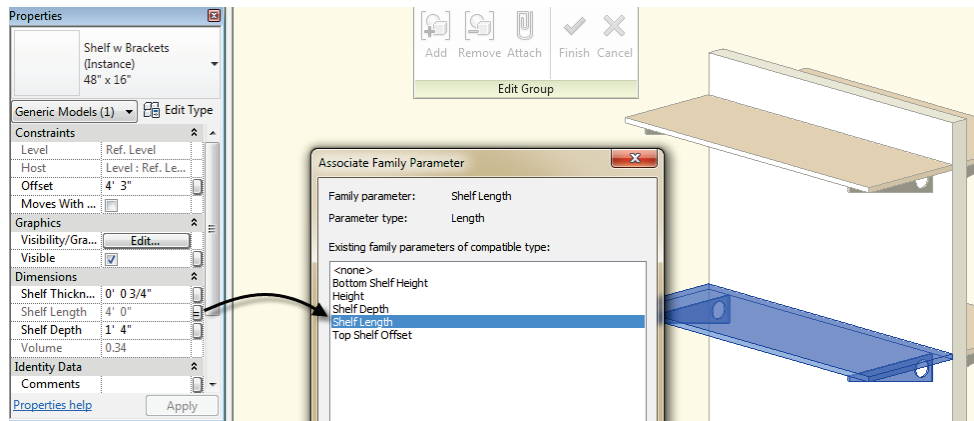

Figure 21—Swap in the instance based family and link up the parameters
3. Before finishing the group, select the shelf and on the Properties palette, link up the Shelf Length parameter with the Shelf Length in the host family (see Figure 21).